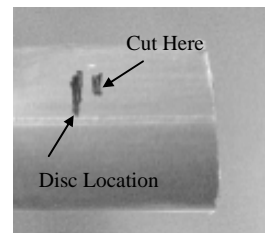

Figure 1
- 1) **Locate the 1st disc by inserting small ruler or wire.** Mark location on jacket surface. **Cut** right in front of disc using hacksaw (Figure 1). Ensure that cable is straight for at least 10" from the end. (Tools required: Small Ruler or Wire and Hacksaw)